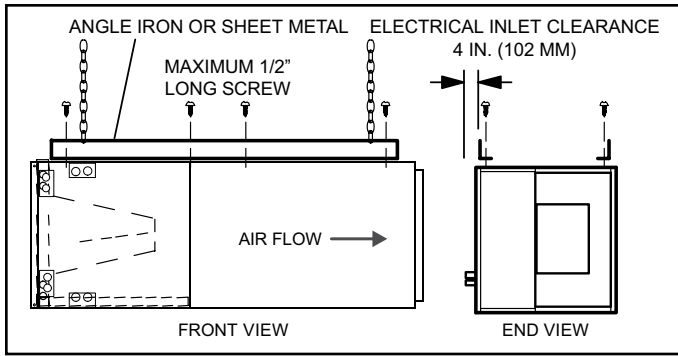

Figure 3. Suspending Horizontal Unit
5. If the unit is suspended, the entire length of the cabinet must be supported. If you use a chain or strap, use a piece of angle iron or sheet metal attached to the unit (either above or below) to support the length of the cabinet. Use securing screws no longer than 1/2 inch to avoid damaging the coil or filter. See figure 3. Use sheet metal screws to connect the return and supply air plenums as required.